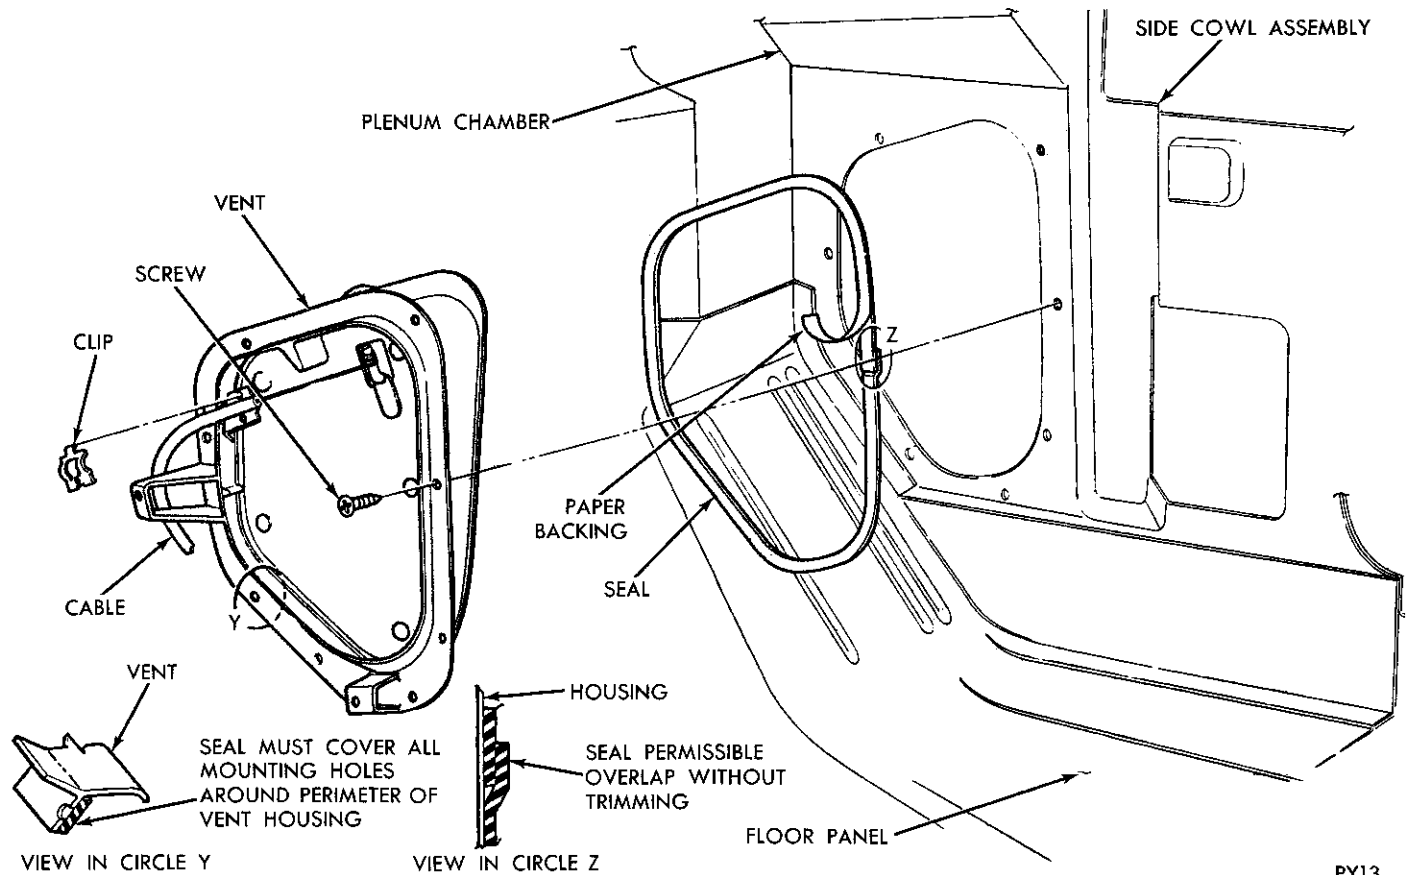

Fig. 3—Side Cowl Fresh Air Vent
The fresh air inlet vent control cable, housing and knob (Fig. 3) is serviced as an assembly. The cable housing shank has two flat edges, indexing with corresponding edges in the panel and is retained on the panel with a nut at the rear. The housing is attached to the vent door bracket with a clip and the coiled cable end is positioned over a pin on the door.
Door adjustment is controlled by the cable housing attachment at the door bracket (Fig. 3). Loosen clip screw attaching the housing to the door bracket and
Removal (Fig. 3)
- (1) Install spring nut to bottom of fresh air door housing, if removed.
- (2) Position seal in line with outer edge of housing flange (Fig. 3).
- (3) Position fresh air door on cowl side panel, align attaching holes, install attaching screws and tighten progressively.
- (4) Insert actuator cable assembly, through hole in door frame flange and install coiled end of cable over pin on door.
- (5) Position clip over cable and attach to door bracket.
- (6) Adjust vent door cable housing and install trim panel and silencer. (Right side vent **not** available on cars with automatic temperature control).